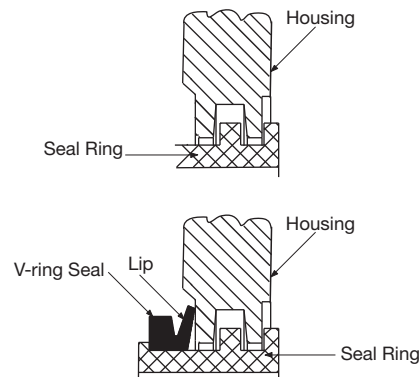

Figure 3
3. Install second seal ring onto the shaft with relation to housing as shown in Figure 3.